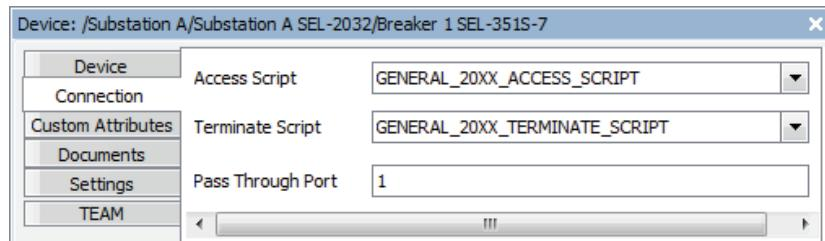

Figure 52 Relay Connection Window
Step 7. Select the **Connection** tab in the **SEL-351S-7** window shown in *Figure 52* and match the options to the following listing.